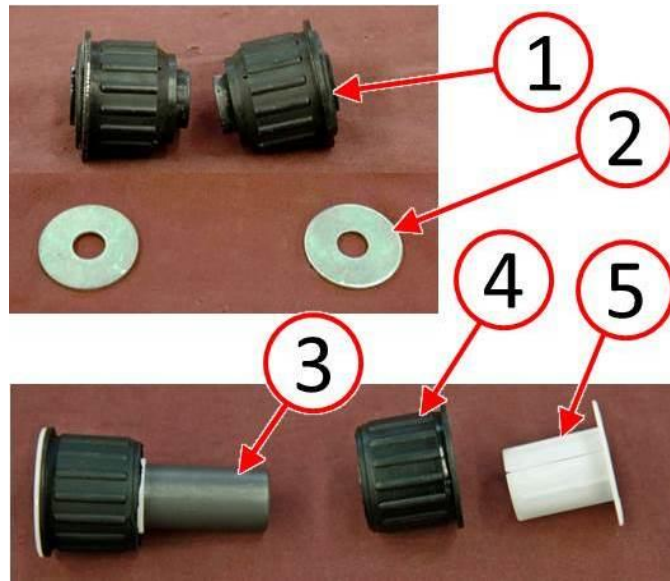

Fig. 2 Replacement Bushing Identification
2. Confirm that the replacement parts are of the NEW bushing design consisting of bushings (1) and washers (2). Do not use the previous design bushings that consist of center spacer (3) white plastic sleeve (5) and bushing (4) (Fig. 2).